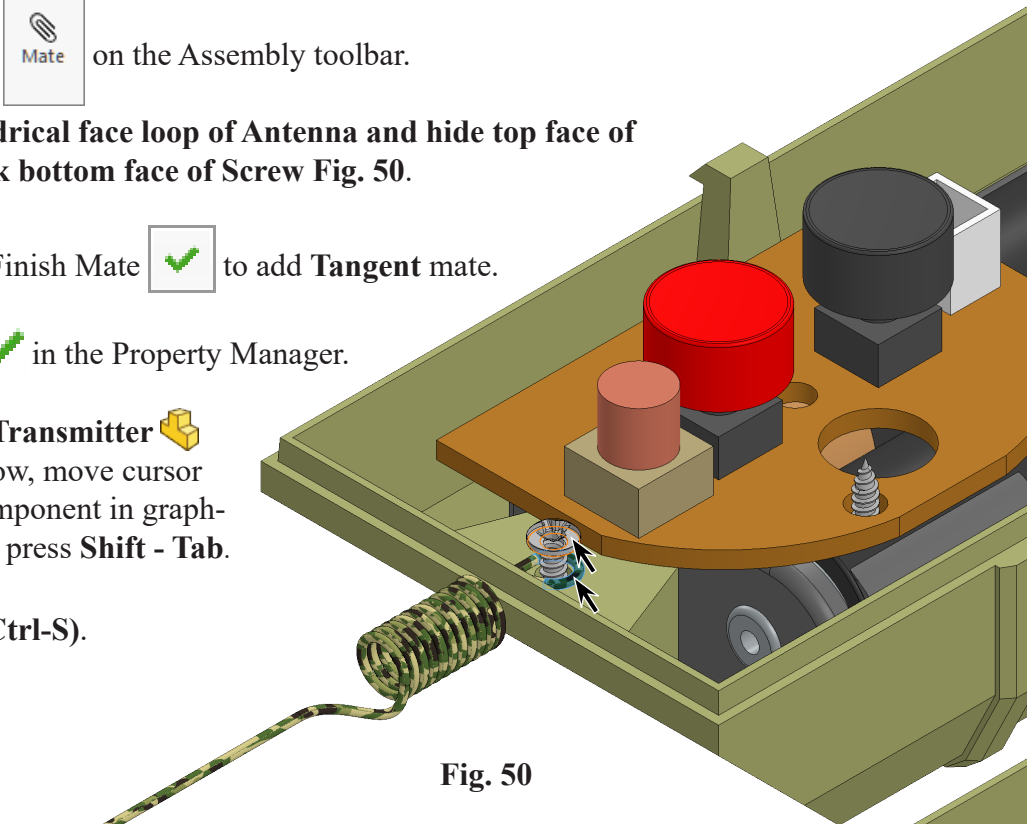

Fig. 50
Step 2. Click **cylindrical face loop of Antenna and hide top face of Screw**, click **bottom face of Screw** Fig. 50.